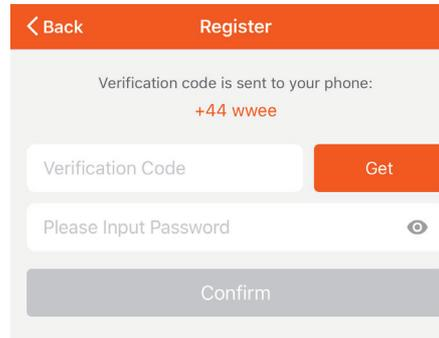

Fig 3
Step 5: Enter the verification code which will be sent to your mobile number/email id, then assign a new password to your account and tap on "Confirm" to complete the registration process. (Ref Fig 3). Once done you will be redirected to V-TAC Smart Light Home page.